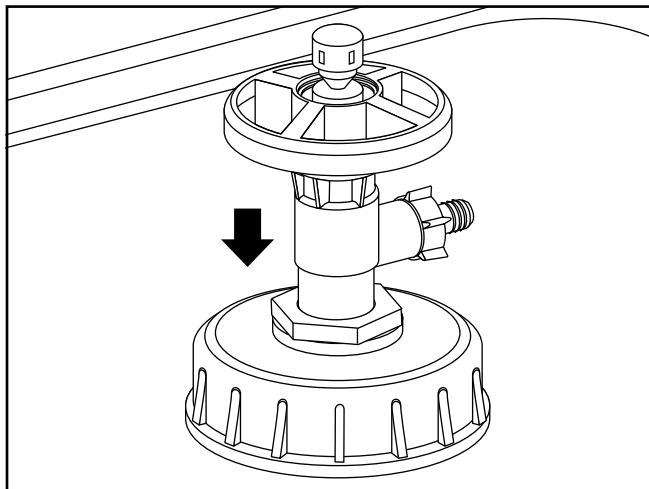

Figure 3: Installing the Pump
3. Lift the pump and slide it into the barrel adapter (see Figure 3).